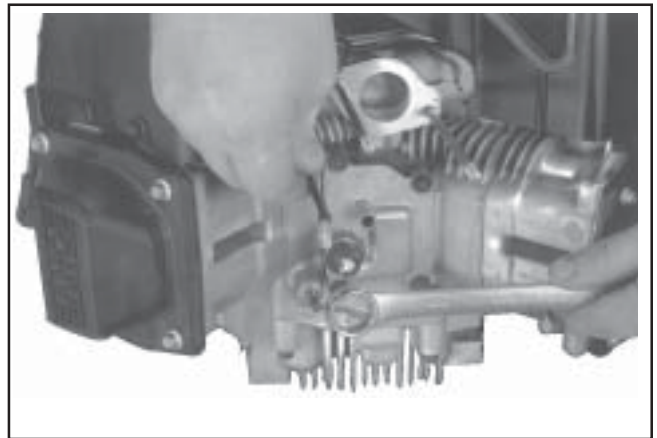

Figure 9-33. Removing Oil Sentry™ Switch.
2. Remove the Oil Sentry™ switch from the breather cover. See Figure 9-33.